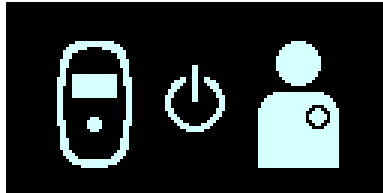

Figure 57: Charge Session Cancellation Screen
6. If the FCE Guardio Charger is able to reestablish communications with the OPTIMIZER INTEGRA CCM-D IPG within 5 minutes of charging in Unpaired Charge Mode, the FCE Guardio Charger will emit three short beeping tones, display the Charge Session Cancellation screen (see **Figure 57**), and then automatically terminate the Unpaired Charge Mode charging session. When this occurs, remove the Pairing Magnet from atop the FCE Guardio Charger and then proceed Step 3 in section 1.15.2.
Note: If the FCE Guardio Charger is not able to reestablish communications with the OPTIMIZER INTEGRA CCM-D IPG after 5 minutes of charging in Unpaired Charge Mode, it will emit three short beeping tones, display the Charge Session Cancellation screen (see **Figure 57**), and then terminate the Unpaired Charge Mode charging session. If this occurs, repeat Step 4 to initiate another charge session in Unpaired Charge Mode.